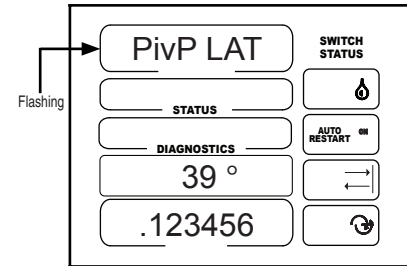

Figure 48-1
1. PivP LAT should be flashing and the pivot point latitude value is displayed. Default latitude is 90°. See figure 48-1.